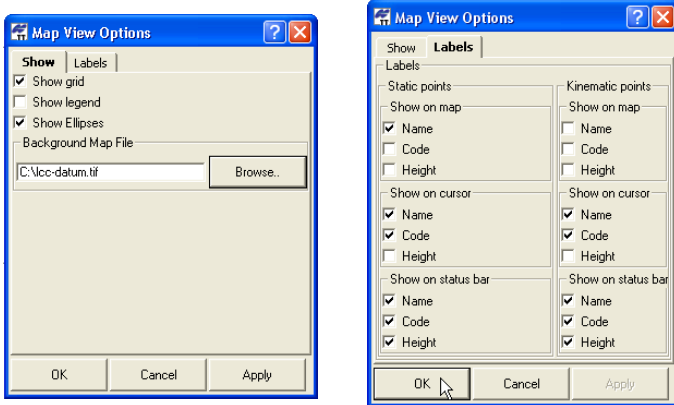

Figure 4-43. Map View Show and Label Options
2. On the *Show* tab, enable the desired settings (Figure 4-43 on page 4-41). Click **Apply** to save the settings and make further changes.
3. On the *Labels* tab, enable the desired settings (Figure 4-43 on page 4-41). Click **Apply** to save the settings.